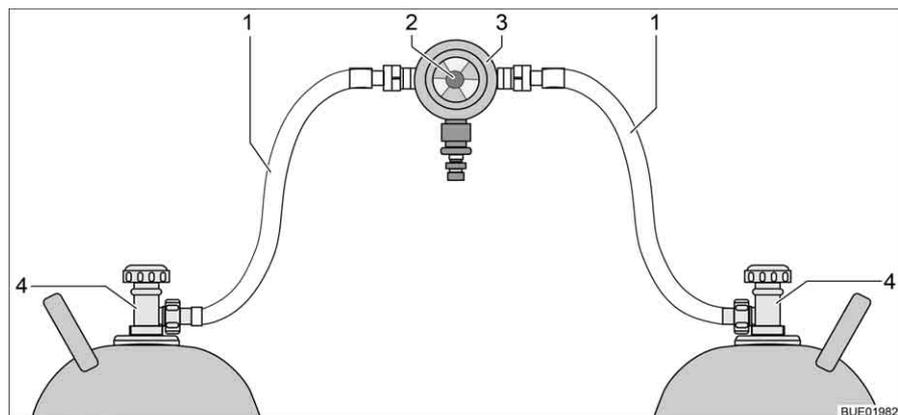
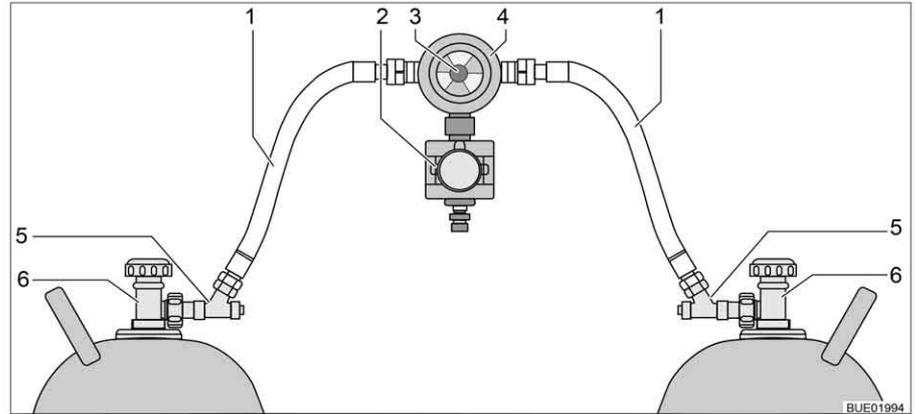

Fig. 154 Gas bottle switching facility
Fig. 155 Gas bottle switching facility with CPU
The gas bottle switching facility consists of a combined gas pressure regulator with reversing valve and indicator (Fig. 154,3). The gas bottle switching facility is installed between the two gas tubes (Fig. 154,1).
The gas bottle switching facility consists of a combined gas pressure regulator with reversing valve and indicator (Fig. 155,4), and an electrovalve (Fig. 155,2). The electrovalve blocks the gas supply to the vehicle in the event of a full braking, an accident, or an unusually great inclined position. The gas bottle switching facility is installed between the two gas tubes (Fig. 155,1) with hose break guards (Fig. 155,5).
Use the knob (Fig. 154,2 or Fig. 155,3) on the gas bottle switching facility to select which of the gas bottles is to be used as a primary bottle and which is to be used as a reserve bottle.
Only the electrical functions can be switched at the operating unit (Fig. 156). The regulator taps on the gas bottles (Fig. 154,4 or Fig. 155,6) must be opened and closed manually.
- Open the regulator taps of the gas bottles (Fig. 154,4 or Fig. 155,6).
- Press the hose break guards (Fig. 155,5) successively for 10 seconds.
- Use the knob (Fig. 154,2 or Fig. 155,3) on the switching facility to select the gas bottle which is to be the primary source of gas (primary bottle). Always turn the knob as far as it will go.
- Close the regulator taps of the gas bottles (Fig. 154,4 or Fig. 155,6).